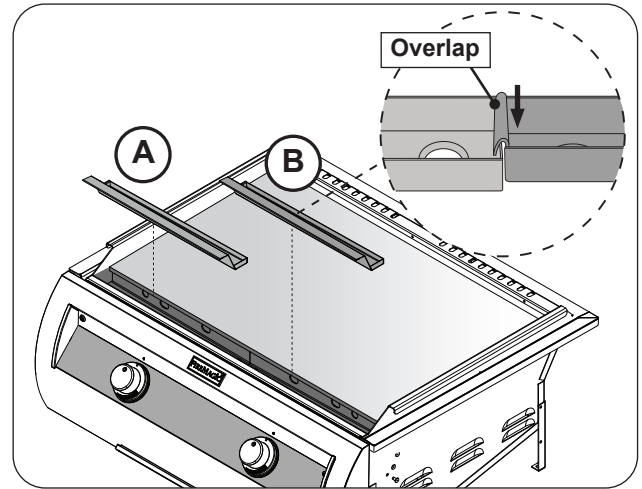

Fig. 32-1 Install drip collector trough
1. Place the left piece inside the griddle drip reservoir and completely slide it to the left side (see Fig. 32-1, A).
2. Place the right piece and ensure it overlaps the left tray as shown in Fig. 32-1, B.